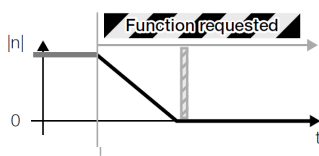

**Figure 1.** Upon activation STO immediately switches off the drive output to the motor. Motor speed then coasts to a stop.
**Safe stop emergency (SSE)** is a safety function specifically designed for emergency stops. SSE can be configured to execute either STO or SS1 depending on which emergency stop is suitable for the system. For examples of this functionality see Fig. 1 or 2.